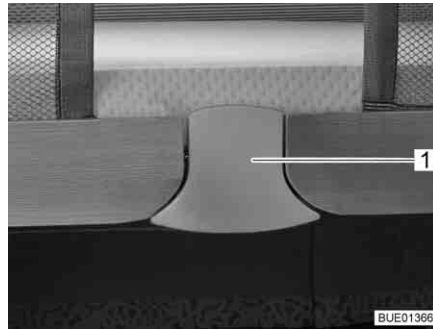

Fig. 105 Release
- Pull out the release area (Fig. 105,1) at the bottom. The lock is released.